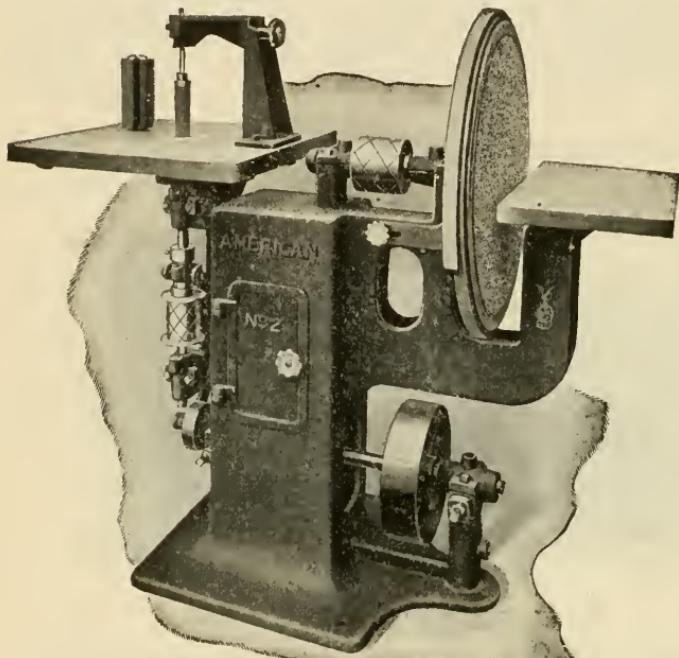

Fig. 52—DISC AND SPINDLE SANDER
53. Disk and Spindle Sanders-- The disk and spindle sander illustrated in Fig. 52 is one of the safest types in use. The disk, made of glued up strips, is covered with a piece of heavy Brussels, and acts as a pad for the sand paper. The iron band around it holds the paper in place.
54. Speed and Power-- Belt sanders, as described in Fig. 52, are run at a surface speed of about 2200 feet per minute, and require a 2 H. P. motor. The disk and spindle sander, described in article 53, should have a speed of 700 r. p. m. for disk, and 1200 r. p. m. for the spindle. A 2 H. P. motor is required for power.